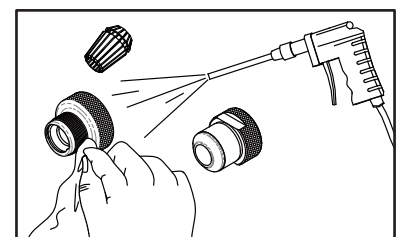
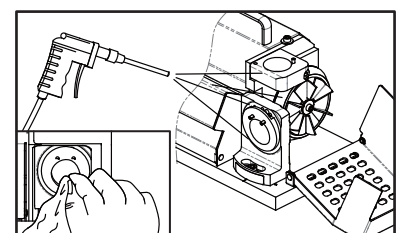

Fig. 10-4
Fig. 10-5
- ① Unplug the power cord and make sure the power is off.
- ② Disassemble the chuck set after use.
- ③ Use the air press gun to clean the scraps and dust out of all grinding shelves and all the accessories. (Fig. 10-4, Fig. 10-5)
- ④ Use clean cloth to clean each contact port and all the accessories, then put them back in order. (Fig. 10-4, Fig. 10-5)